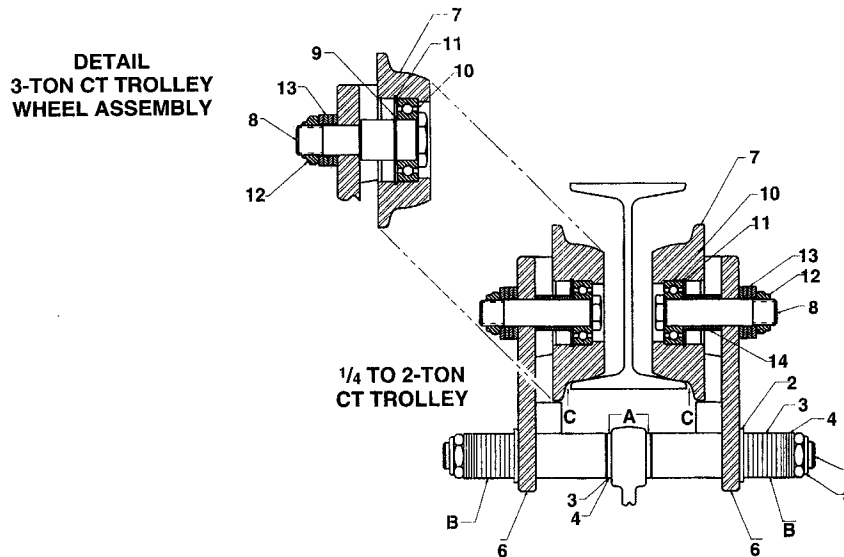

FIGURE 2-1. COFFING CT TROLLEY
- c. See Figure 2-1 for instructions on adjusting lug-mounted plain trolleys.
a. **I-Beam Adjustment.** Adjustment for I-beam sizes and tolerances is accomplished by locating the spacer washers as shown in Figure 2-1. Normal placement of washers is given in Table 2-2. Refer to Table 2-1 for identification of part names and numbers.